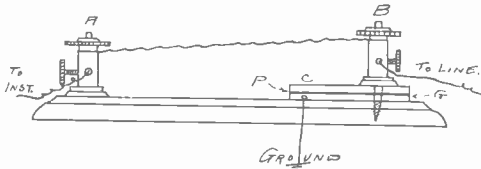

FIG. 2. COMBINED LIGHTNING ARRESTER AND FUSE
Fig. 2 shows a combination of fuse and ground plate arrester. Between binding posts (A) and (B) extends a piece of fuse wire, protecting the office apparatus in case of a cross with high voltage or lighting circuits. Two brass plates (C) and a ground plate (G) are separated by layers of paraffin paper, which, in case of a lightning discharge from the line to binding post (B), are punctured, the charge going to ground.